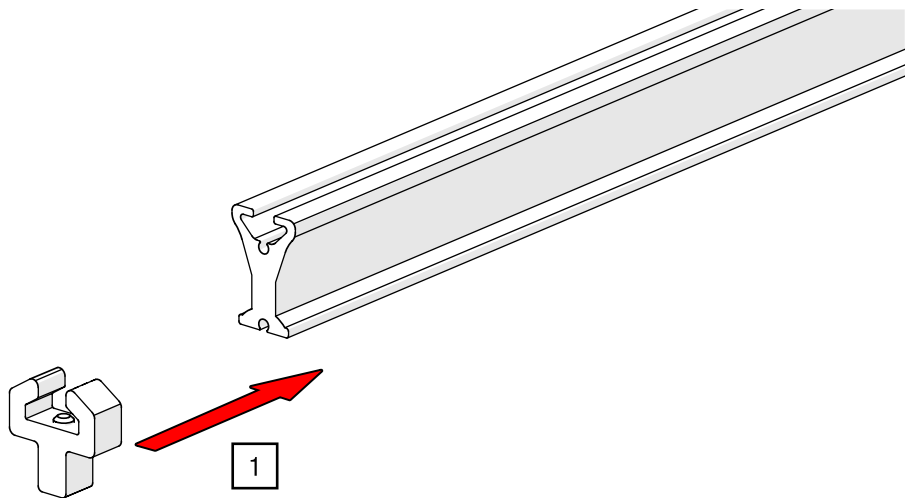

Fig. 49: Variable end stop – Mount at the track end
1. Slide the variable end stop onto the track end according to your desired position (see Fig. 49).